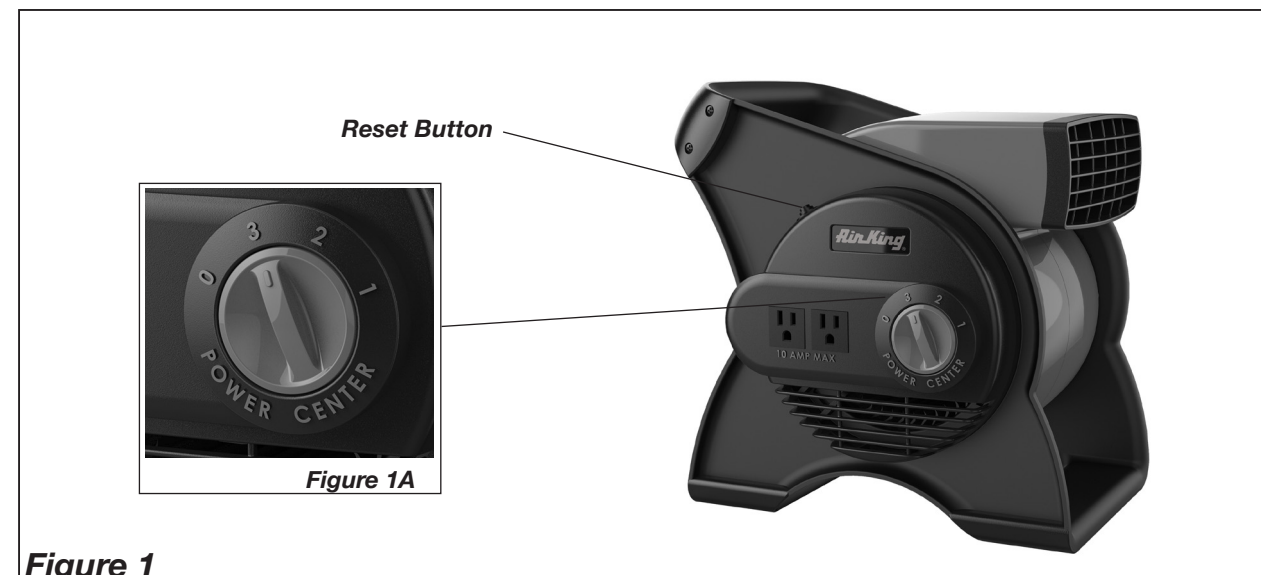

Figure 1
- To adjust the angle of the Fan air flow, rotate the Fan body forward or backward to the desired position. (**Figure 1**)
- To turn the Fan OFF, turn the **Power Knob** to OFF (0) and unplug the unit from the electrical outlet.